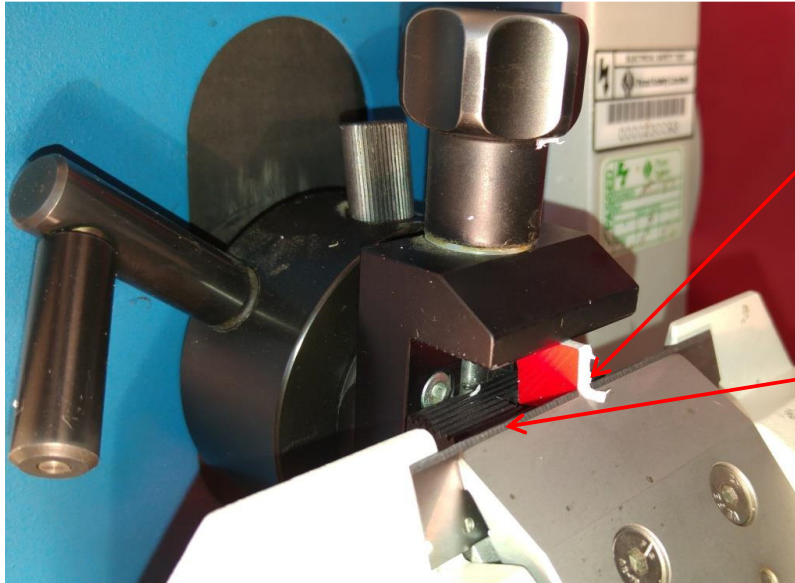

Figure 2. Sample shown clamped in the microtome sample holder.
- The coated sample should be mounted onto the microtome sample holder such that the resulting cross-section slice is as close as possible to 90° to the coating surface (See Figures 2 and 3)